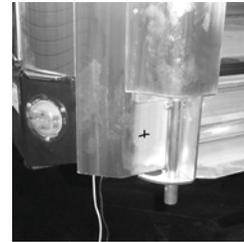

Figure 33
- 7) See figure 33. Locate and mark the bulkhead legs for a hole 4" from the bottom of the bulkhead legs and centered between the two lines inscribed on the legs. Drill a 3/4" hole through the legs and into the trailer. Use compressed air to blow drill shavings off the side rails.